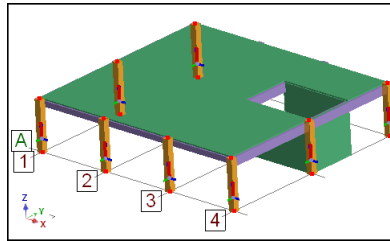

Figure 45: Selection of the columns
1. Select the columns along the **1**, **4** and **A** axes (Figure 45).